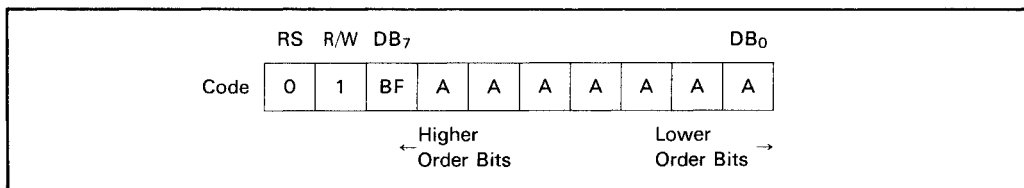

Figure 21. Read Busy Flag and Address Instruction
Read busy flag and address (figure 21) reads the busy flag (BF) that indicates the system is now internally operating on a previously received instruction. $BF = 1$ indicates that internal operation is in progress. The next